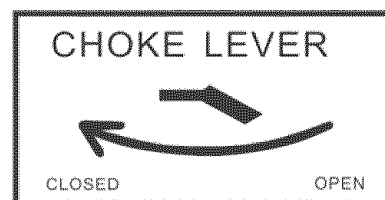

Figure 7- Choke in the “closed” position (refer to page 9 for choke location)
4. Move the choke lever to the “closed” position (see figure 7).